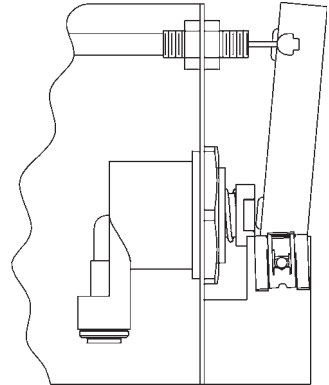

FIG. 6
3. Remove cable free play by adjusting the jam nuts on the ends of the operating cable. See Figure 6